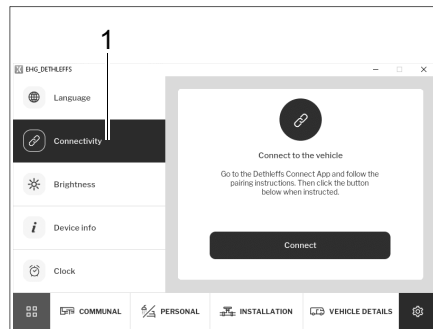

Fig. 280 Connection
- Click on the *Connection* (Fig. 280,1) button.